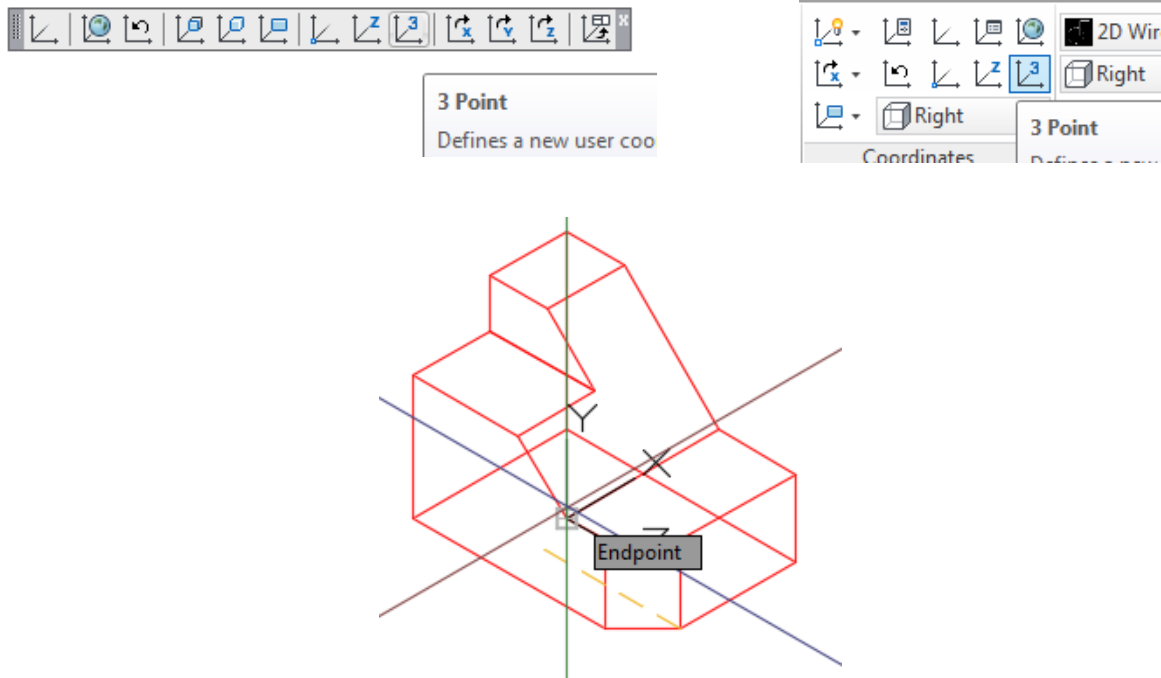

Figure Step 8
Step 8 Enable object snap. Click the 3 Point icon. When prompted, select the end of the inclined line. This is the X0Y0Z0 of the UCS. (Figure Step 8)